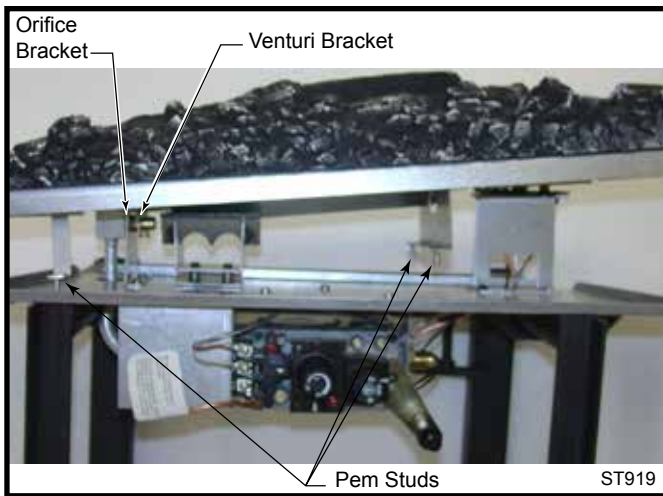

Fig. 82 Tilt ember bed slightly to correctly place on venturi and air shutter.
2. Carefully remove ember bed by tilting the right side up and lifting out toward the right side of the unit. (Fig. 82)
1. Replace burner making sure venturi on bottom of ember bed aligns with orifice and is seated properly on air shutter assembly. (Fig. 82) Make sure burner is slid into place at a slight angle and opposite to how it was removed. When burner is slid into place, the three (3) pem studs should slide down through clearance holes into the bottom of the control panel.